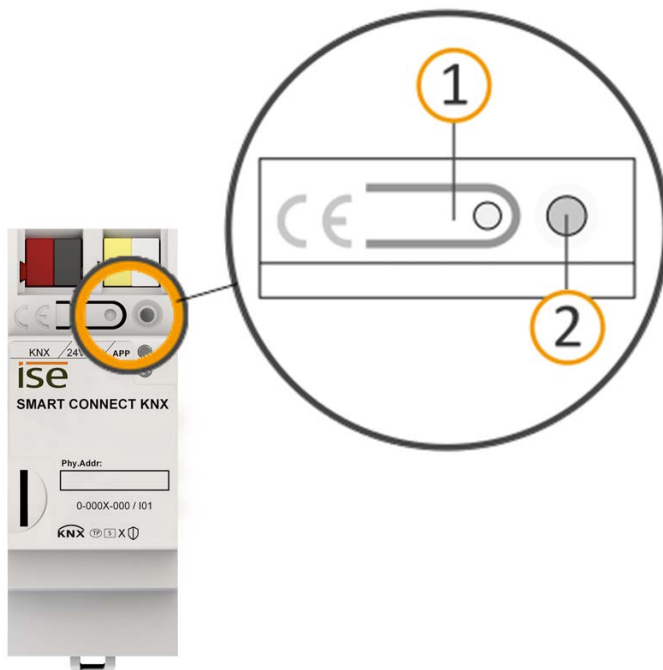

Figure 23: Programming
1. Briefly press the programming button (see figure 23, item 1). The programming LED (see figure 23 item 2) lights up red.
1. Press the programming button (see figure 23, item 1) and keep it pressed while you attach the power connection terminal.